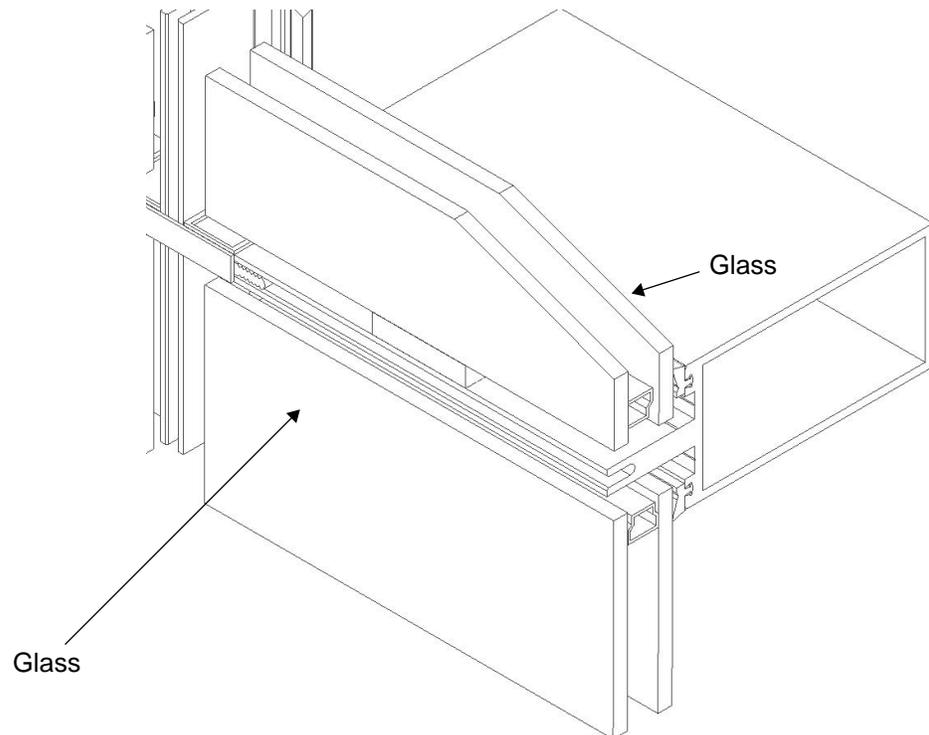

Figure 20: Place glass on setting blocks.
- Place glass on setting blocks, as shown in Figure 20.